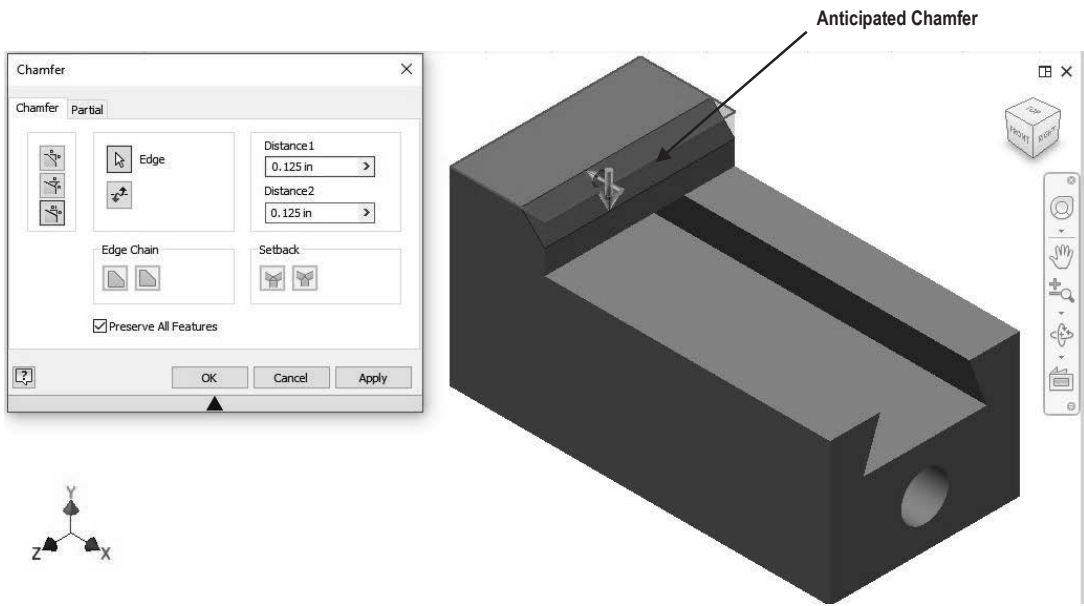

Figure 5
7. Inventor will provide a preview of the anticipated chamfer as shown in Figure 5.